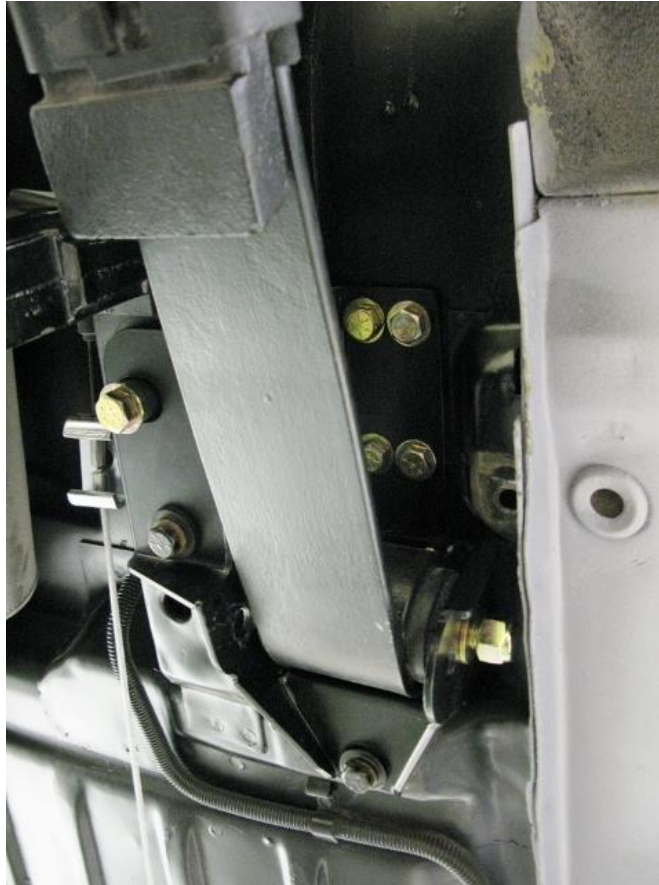

Figure 16 – Install the DSE Pocket Assemblies
30. Install the DSE pocket assemblies into the vehicle. Torque the 3/8"-16 x 1" L hex head bolts to 45 lbf-ft and the 7/16"-14 x 4-1/4" L hex head bolts to 65 lbf-ft [Figure 16].